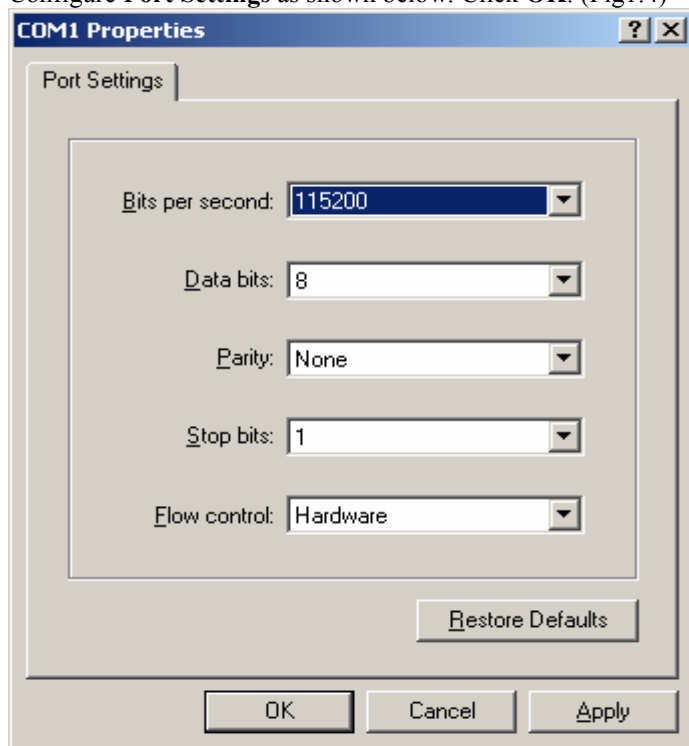

Fig1.4
1.5.5 Configure **Port Settings** as shown below. Click **OK**. (Fig1.4)